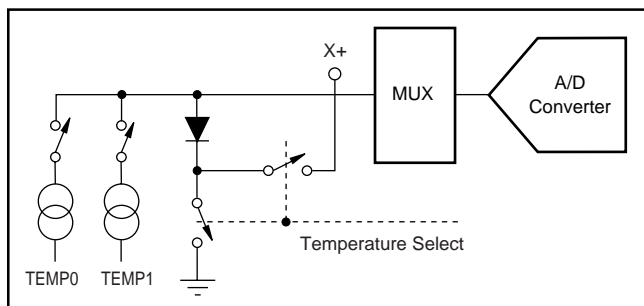
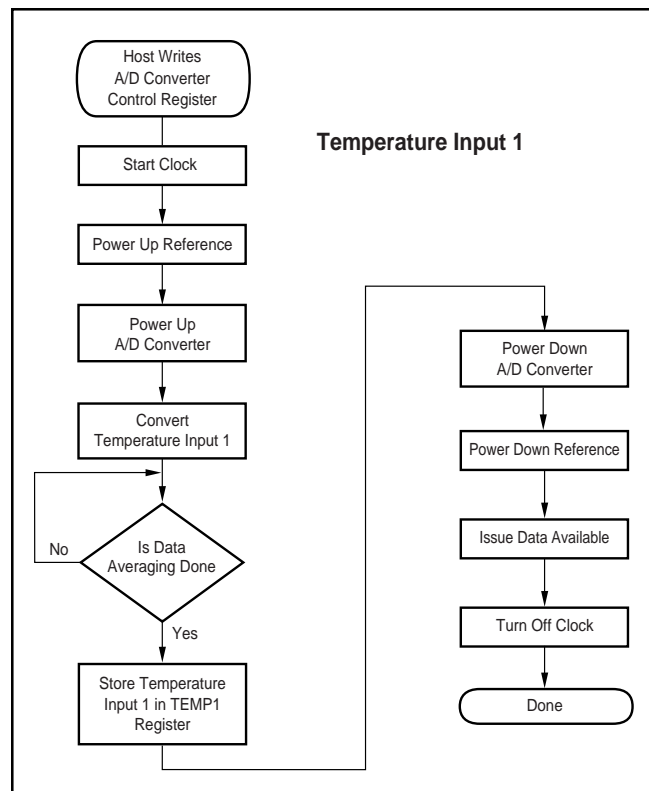

FIGURE 18. Functional Block Diagram of Temperature Measurement Mode.
FIGURE 19. Single Temperature Measurement Mode.
The TSC2200 offers two modes of temperature measurement. The first mode requires calibration at a known temperature, but only requires a single reading to predict the ambient temperature. A diode, shown in Figure 18, is used during this measurement cycle. This voltage is typically 600mV at +25°C with a 20μA current through it. The absolute value of this diode voltage can vary by a few millivolts; the temperature coefficient (TC) of this voltage is very consistent at -2.1mV/°C. During the final test of the end product, the diode voltage would be stored at a known room temperature, in system memory, for calibration purposes by the user. The result is an equivalent temperature measurement resolution of 0.3°C/LSB. This measurement of what is referred to as Temperature 1 is illustrated in Figure 19.